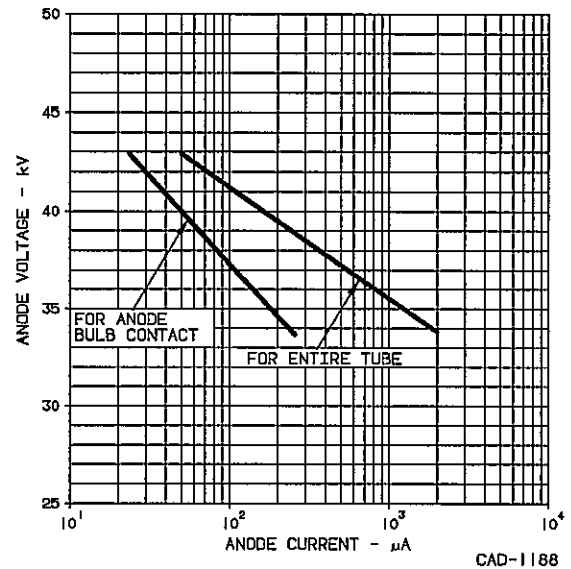
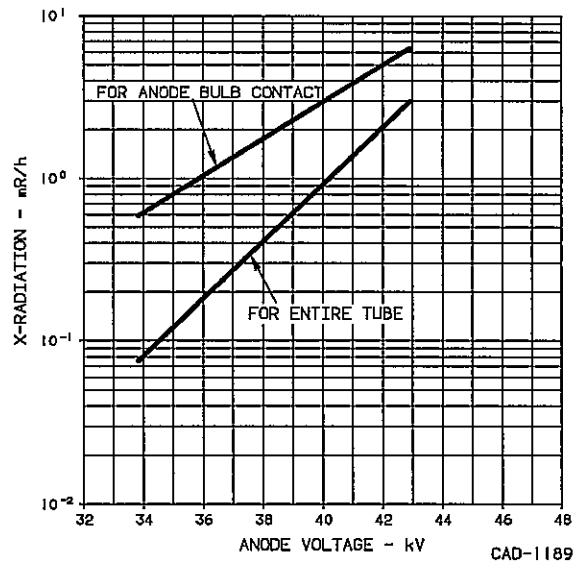

Figure 5 – 0.5 mR/h Isoexposure-Rate Limit Curves
Figure 6 – X-Radiation Limit Curves at a Constant Anode Current of 300 μ A (x-radiation at a constant anode voltage varies linearly with anode current)
The x-radiation emitted from this picture tube will not exceed 0.5 mR/h for anode voltage and current combinations given by the isoexposure-rate limit curves as shown in Figure 5. Operation above the values shown by the curves may result in failure of the television receiver to comply with the Federal Performance Standard for Television Receivers, Part 1020 of Code of Federal Regulations, Title 21, Chapter I, Subchapter J. Maximum x-radiation as a function of anode voltage at 300 μ A anode current is shown by the curves in Figure 6. X-radiation at a constant anode voltage varies linearly with anode current.
*This rating applies only if the anode connector used by the receiver manufacturer provides the necessary attenuation to reduce the x-radiation from the anode bulb contact by a factor equivalent to the difference between the anode bulb contact isoexposure-rate limit curve (Figure 5) and the isoexposure-rate limit curve for the entire tube.
Operation of this color picture tube at abnormal conditions which exceed the 0.5 mR/h isoexposure-rate limit curves shown in **Figure 5** may produce soft X rays and may constitute a health hazard by prolonged exposure at close range unless adequate external x-radiation shielding is provided. Therefore, precautions must be exercised during servicing of TV receivers employing this tube to assure that the anode voltage and other tube voltages are adjusted to the recommended values so that the Absolute-Maximum Ratings will not be exceeded.